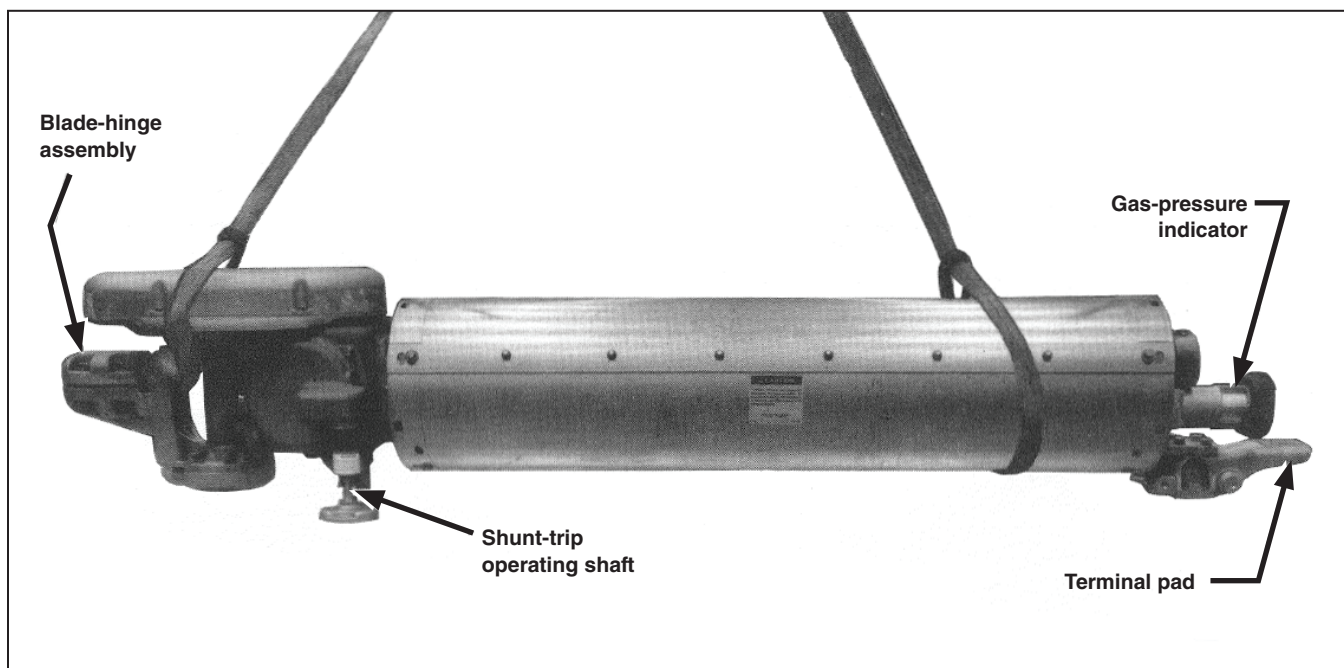

Figure 6. Lifting the brain and interrupter assembly.
- (a) Attach lifting slings in the manner shown in Figure 6. Make sure the slings do not interfere with the interrupter target on the side of the brain, the gas-pressure indicator, the pressure-relief device, or the shunt-trip operating shaft (if applicable).